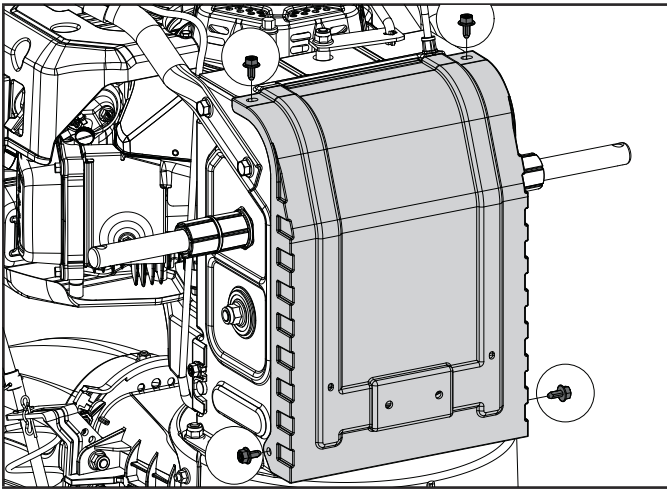

Figure 42
3. Remove the base frame cover from the underside of the snowblower by removing the four M6 x 16 screws which secure it (Fig. 42).